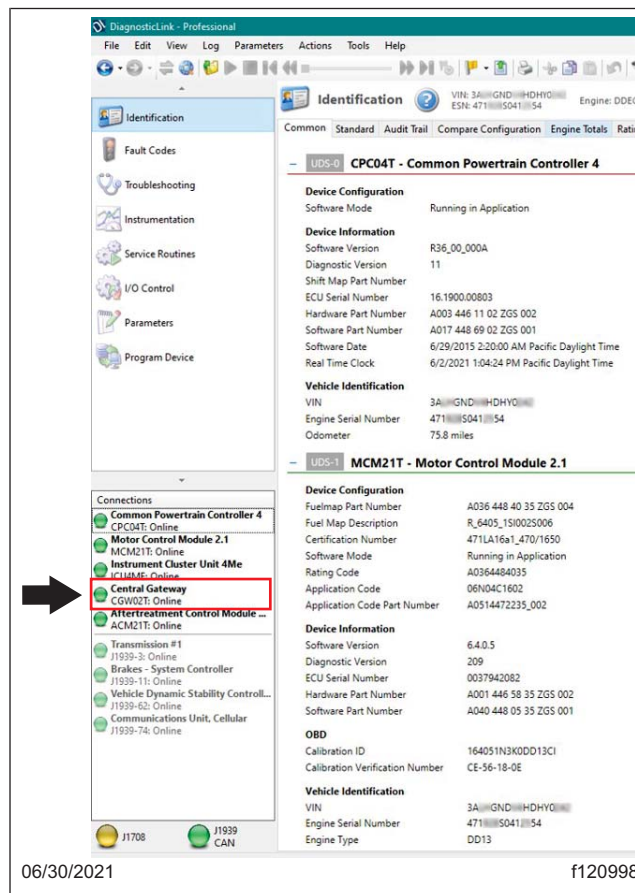

Fig. 1, CGW Connected and Online
3. Connect the vehicle to DiagnosticLink. Ensure that the central gateway (CGW) ECU is connected and on-line in the 'Connections' window. See Fig. 1.